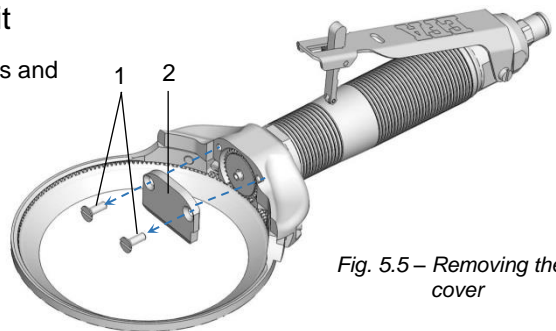

Fig. 5.5 – Removing the cover
1) Remove the cover, see Fig. 5.5.
2) Mount the sharpening unit (1) on the EFA trimmer in place of the gear unit cover using the screws (2).